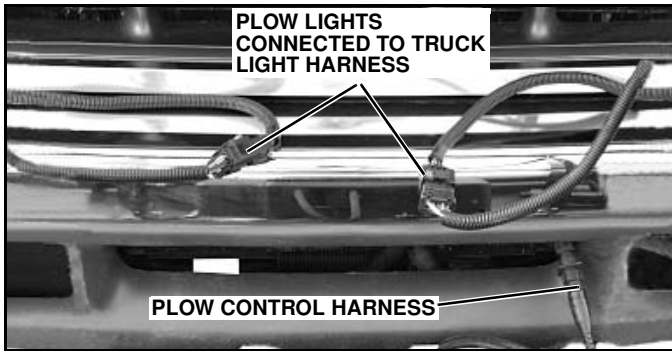

Figure 1-47
2. Plug EIS® plow light connectors into mating connectors on truck light harness. (See Figure 1-47).